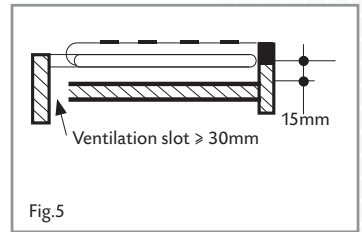

Fig.5
This appliance must be installed a minimum of 50mm from any back wall and a minimum of 150mm away from any adjacent vertical surfaces, e.g. a tall cupboard end panel. This may be reduced to 100mm if the adjacent surface is resistant to fire (tiles or steel, for example). These dimensions are shown in Fig.5.
- If there is no oven to be built in below the hob it is recommended that, an isolation shelf should be fitted to protect the user from high temperatures. If the hob is to be installed above a working drawer, then a partition should be fitted to protect the contents and user from the heat generated during use. This should be fitted at least 15mm below the hob. This panel should have a ventilation space at the rear of greater than 30mm as shown in fig. 5.